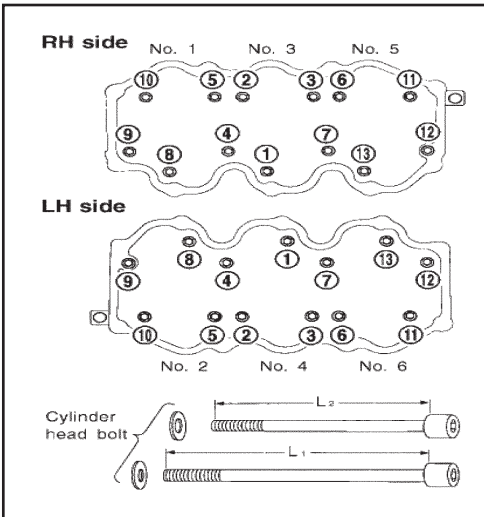

Figure 4 Install the washers between the bolts and cylinder head with the washer beveled side up on Nissan 3.3L engine.
- 2) Install the washers between the bolts and cylinder head with the washer beveled side up as shown in **Figure 4**, right.